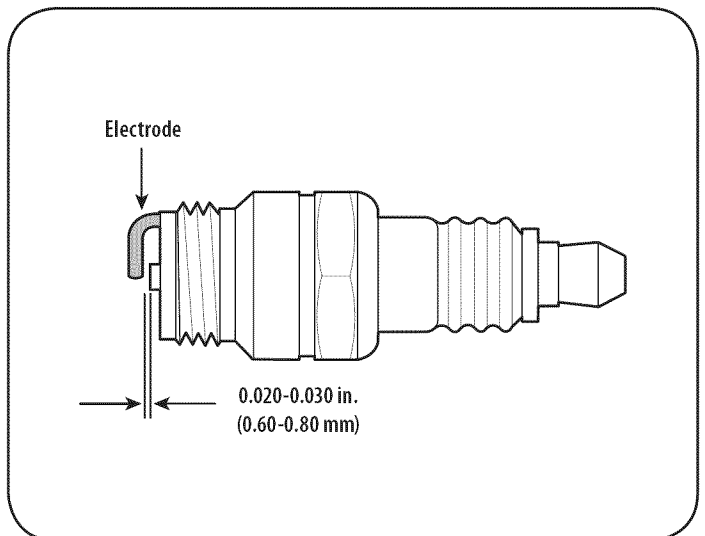

Figure 23
3. Measure the plug gap with a feeler gauge. Correct as necessary by bending side electrode. See Figure 23. The gap should be set to 0.020-0.030 inches (0.60-0.80 mm).